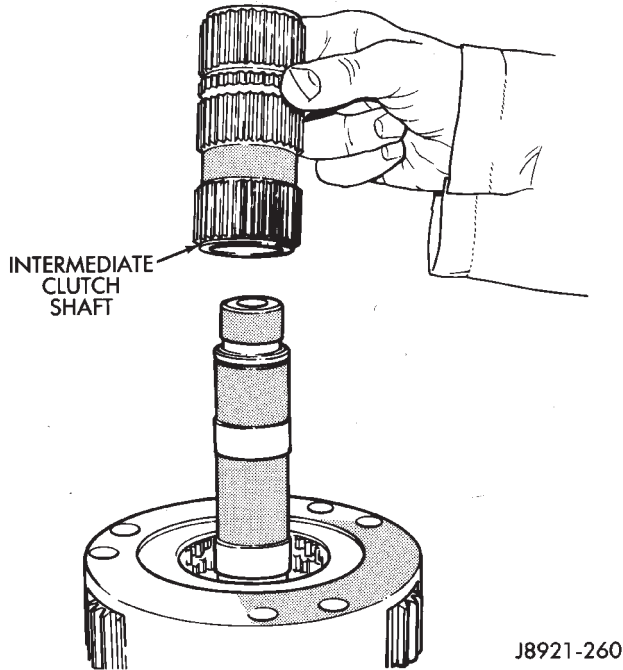

Fig. 26 Removing Intermediate Clutch Shaft
(33) Remove intermediate clutch shaft (Fig. 26).